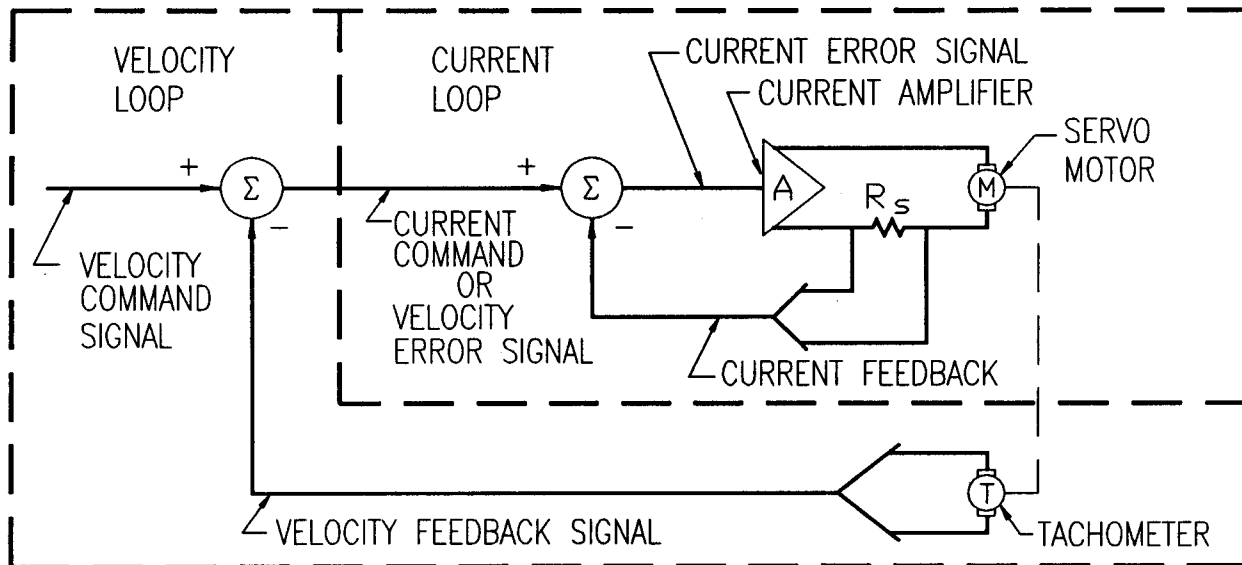

Figure 4.1
A velocity-mode servo amplifier is essentially comprised of two control loops (fig. 4.1).
Please refer to figure 4.1 for a diagram of the current loop. In control electronics the symbol Sigma (with the circle around it) is referred to as a "summing junction". The manner in which this summing junction operates is as follows:
The current-command signal (also referred to as the velocity-error signal when received from the output of the velocity loop, as shown in fig. 4.1) is added to the current-feedback signal. The signal resulting from this addition, is referred to as the "current-error" signal. This current-error signal is fed into the current amplifier, which in turn produces a current in the motor. A voltage which is proportional to the motor current is developed across R_s (shunt resistor). This voltage is referred to as the "current-feedback" signal. The current in the motor increases until the current-feedback signal is exactly equal in magnitude, but opposite in polarity, to the current-command signal. At this point the current-error signal drops to zero, and the actual current is equal to the commanded current. If anything happens to disturb either the current-command signal, or the current-feedback signal, the same process occurs again until the current-feedback signal is equal in magnitude to the current-command signal, but opposite in polarity.
Please refer to figure 4.1 for a diagram of a typical velocity loop. The velocity-loop's operational description is analogous to the current-loop description, except for the fact that the input signal is called the Velocity Command and the feedback signal from the DC tachometer is called the Velocity Feedback.
5.4.3 SIGNAL INPUT: Each amplifier has two Signal Inputs, one single-ended (Signal Input), TB2-3 & TB2-4, and one differential (Auxiliary Signal Input and Auxiliary Return), TB2-1 & TB2-2 respectfully. Typically, when operating in the velocity mode, the input signal range is ± 10 VDC. The input voltage is summed with a precision DC tachometer to provide accurate velocity control at the servo motor shaft (see fig. 4.1). The Signal Gain potentiometer R12, and Auxiliary Gain potentiometer, R13, adjust the motor velocity desired for a given input-voltage velocity-command.